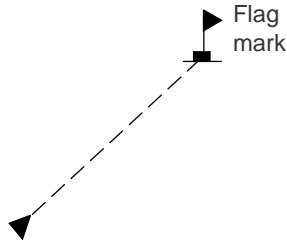

Figure 5-4 Single destination set by cursor
- 5) Press the **NU/CU ENT** key to finish. Control is returned to the display mode in use before you set destination. A dashed line connects own ship and the destination, which is marked with a flag, as shown in Figure 5-4.